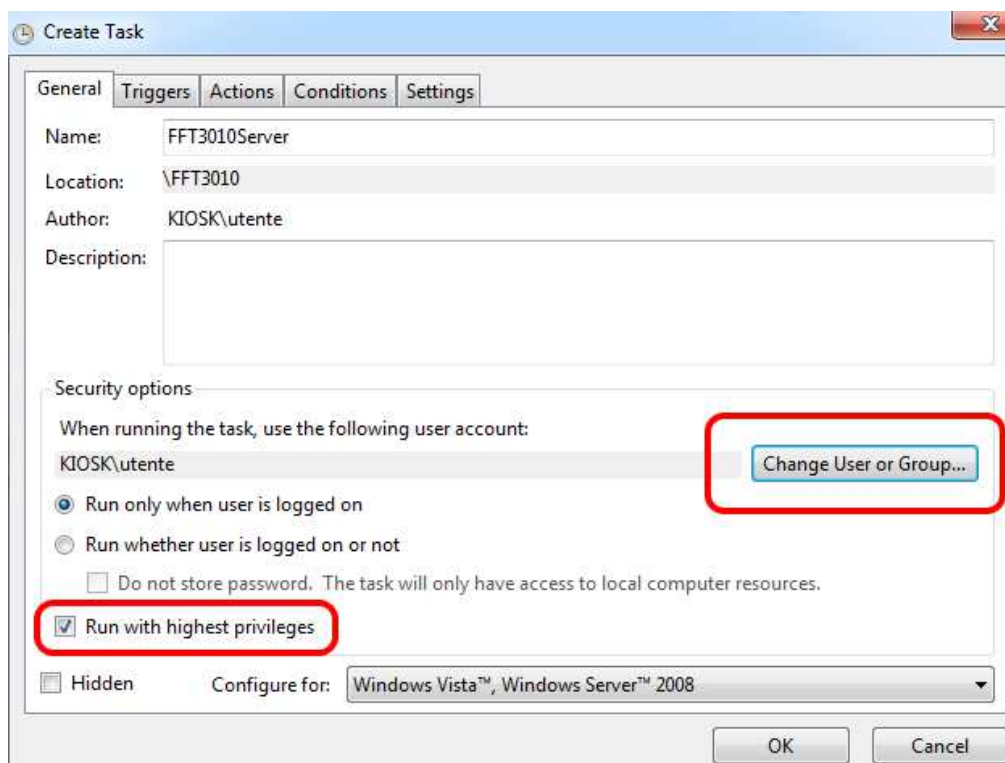

Fig. C.25: Tab General configuration
STEP 3 – In *Create Task* window please select *Tab General* and edit the name of the new task “FFT3010Server (FFT3030Server)”. On *Security options* section select *Run whether the user is logged on or not* checkbox and confirm *Run with highest privileges* checkbox. Proceed clicking on *Change User or Group* option (Fig. C.25).